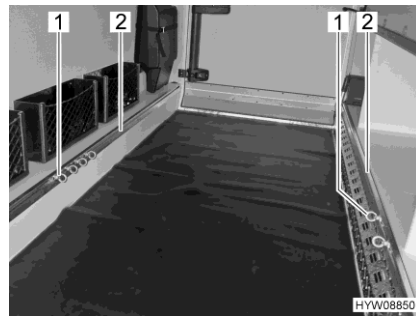

Fig. 5 Clamping eyelets (rear garage)
- Turn the clamping eyelet (Fig. 5,1) half a turn in an anticlockwise direction. Now, the clamping eyelet (Fig. 6) may be moved.
- Push the clamping eyelet into the clamping rail (Fig. 5,2) to the desired position.